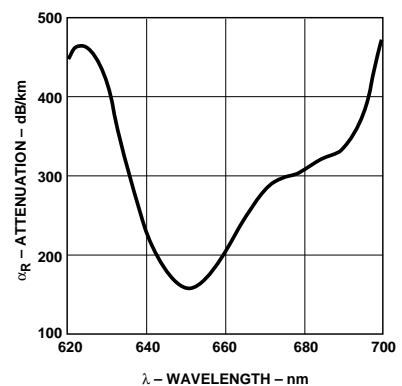

Figure 1. Typical POF Attenuation vs. Wavelength.
| Reference Attenuation | Standard Cable, Type "R" | α_R | 0.12 | 0.19 | 0.24 | dB/m | Source is 650 nm, 0.5 NA monochrometer, $\ell = 50$ meters Note 7, Figure 1 |
7. Note that α_R rises at the rate of about 0.0067 dB/ $^\circ\text{C}$, where the thermal rise refers to the LED temperature changes above 25°C . Please refer to Figure 1 which shows the typical plastic optical fiber attenuation versus wavelength at 25°C .